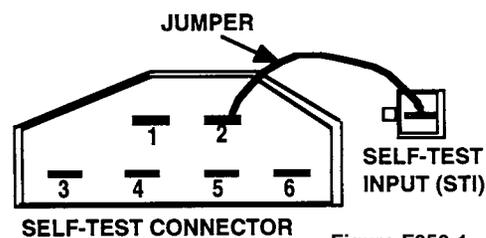

Figure F050-1
1. With the engine off, remove the air cleaner. Connect a jumper wire between the self-test input connector and the signal return (ground) pin on the self-test connector (Figure F050-1).